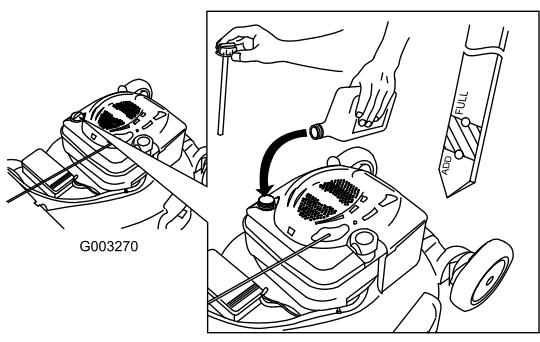

Figure 7
- Slowly pour oil into the oil fill tube until the oil level reaches the Full line on the dipstick (Figure 7). **Do not overfill.** (Max. fill: 20 oz. (0.59 l), type: SAE 30 detergent oil with an API service classification of SF, SG, SH, SJ, SL, or higher.)